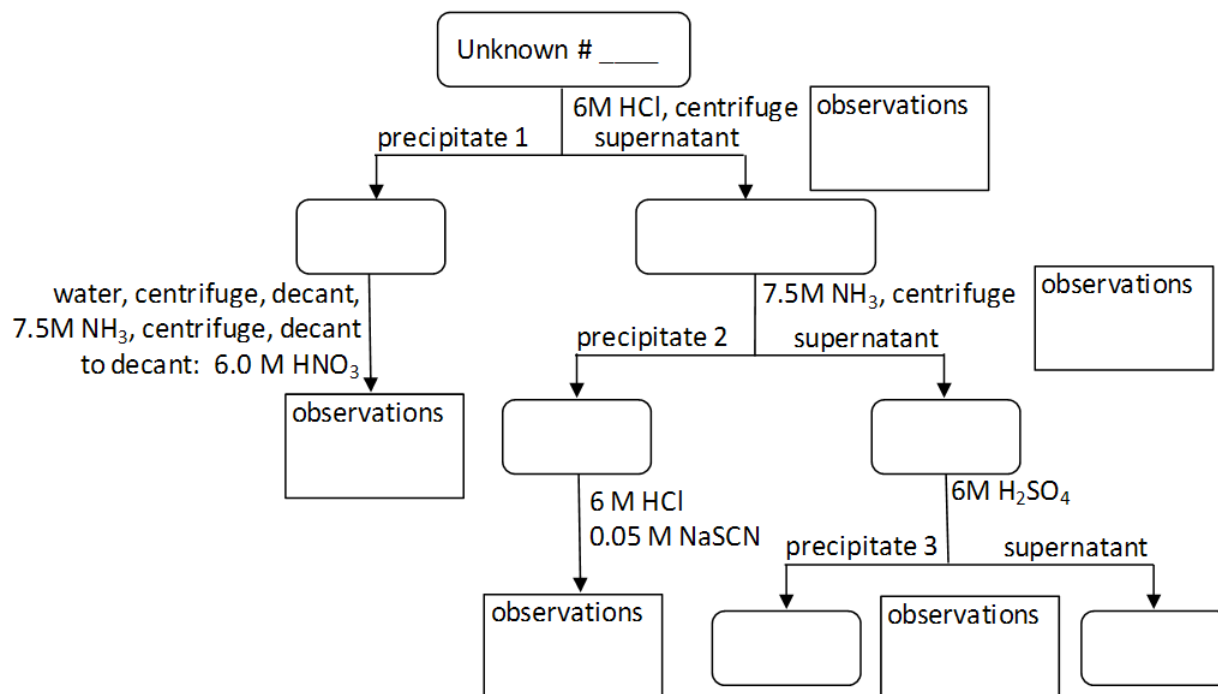

Figure 2: Qualitative Separation Scheme Template for Unknown Mixture
**Note:** As you work, document observations regarding the color of precipitates and solutions in the Figure 2 Qualitative Separation Scheme on your lab worksheet. Compare the observations from Parts B and C to assist in identifying the components of the unknown mixture in Part C.
- 1 Add nine drops of an unknown solution into a clean test tube. Enter your unknown number at the top of the Figure 2 Qualitative Separation Scheme on the lab data sheet.
- 2 Repeat steps 2–12 from Part B, documenting your observations as you work in Figure 2 found in the lab worksheet.